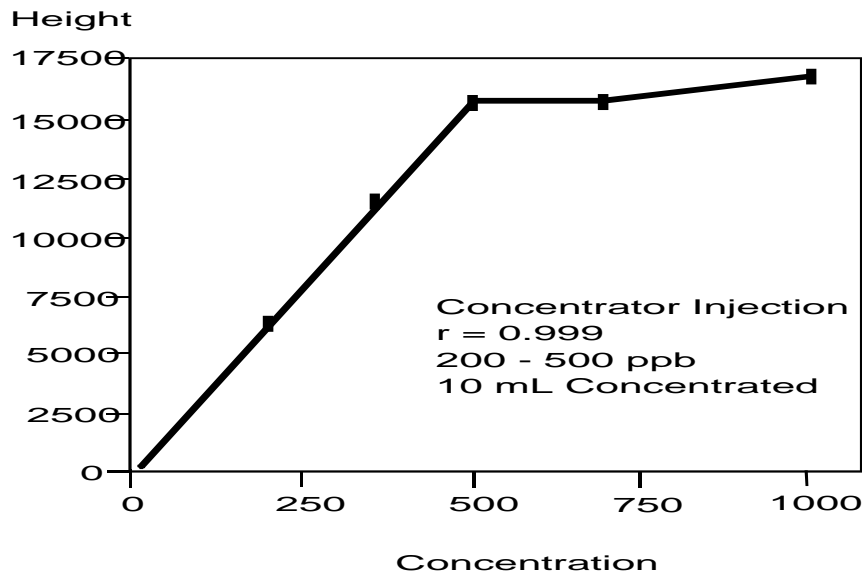

Figure 4
- d) A plot of response versus concentration should be generated as in Figure 4 - Linearity of Ammonium Concentrator Injection, for the determination of the maximum amount of sample or standard that can be quantitatively loaded. In Figure 4 - Linearity of Ammonium Concentrator Injection, the break in the curve where linearity starts to change is at a concentration volume of 10 mL of 1 mg/L ammonium. For practical purposes the amount concentrated for a series of samples should be 75% of this value. This will ensure that there is a safety margin built into the concentration process in case a sample in a series of concentration experiments has a slightly higher ionic concentration.